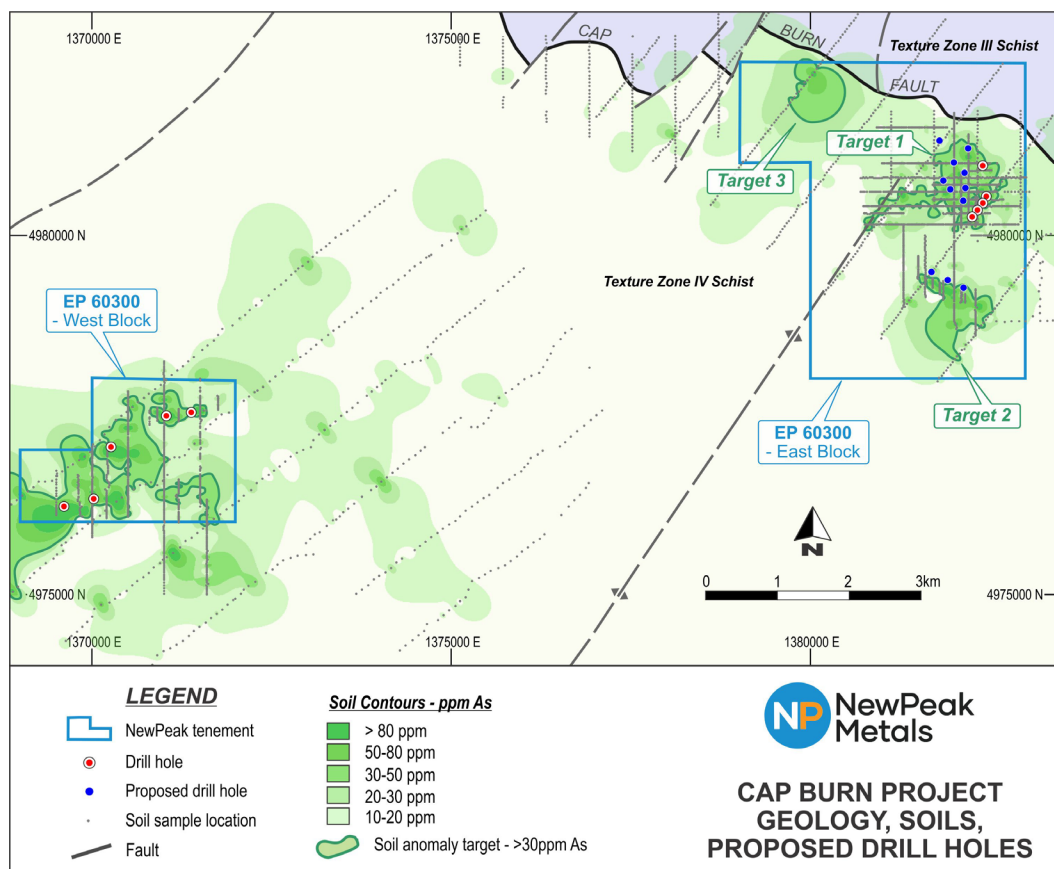

Figure 1: Cap Burn Project – East and West Block drill hole locations
A total of five (5) holes for 750m were completed on the Cap Burn West Block (See **Figure 1&2**). Detailed logging and processing of the diamond core is ongoing with sampling due for completion by mid April. Samples will be sent to the SGS laboratory, Westport, New Zealand for sample preparation followed by Gold assaying by Fire Assay at the SGS laboratory, Waihi, New Zealand. First results are expected in May.